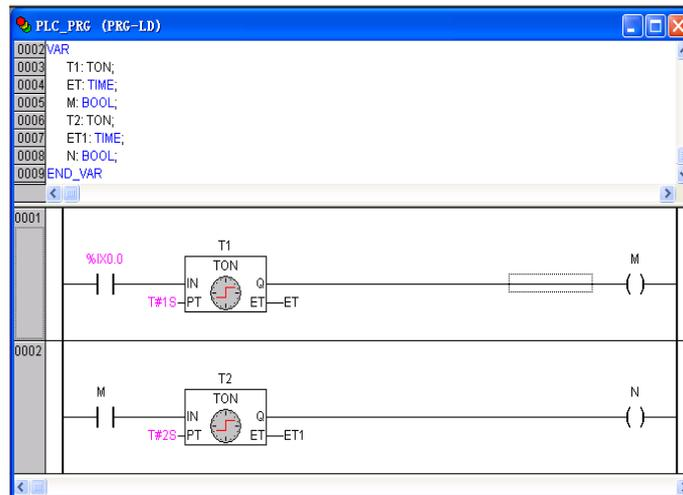

Figure 3-6-10 Programming Step (10)
- The ladder diagram in 0002 is shown in figure 3-6-10, and its programming steps are the same with 0001.